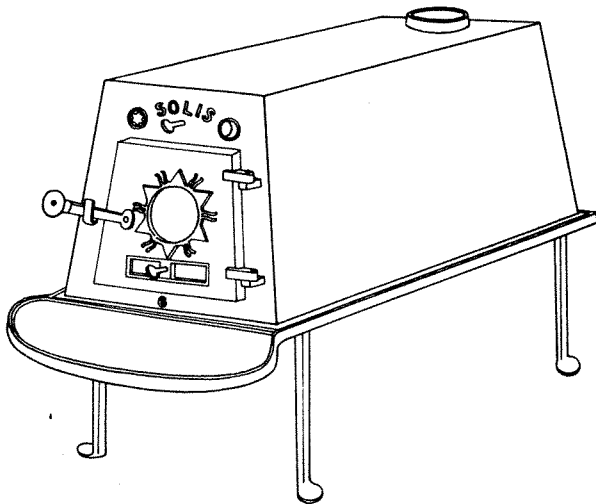

Fig. 15. Solis 6 box stove from Solis Energy Works.
19. **Solis Energy Works** (manufacturer), Box 262A, RD 1, New Hope, PA 18938. The Solis (Fig. 15 and Table 1) is patterned after the Shaker box stoves, except that its heat exchanger and baffle design make it burn as a Scandinavian-type stove. The sides, back, front, and top are all cast in one piece for airtightness. Each draft knob has its own preheating chamber. The horizontal baffle is a long trough which allows heat to touch all sides of it. Each stove is hand-fitted, has a mica window, and hardwood doorknob.